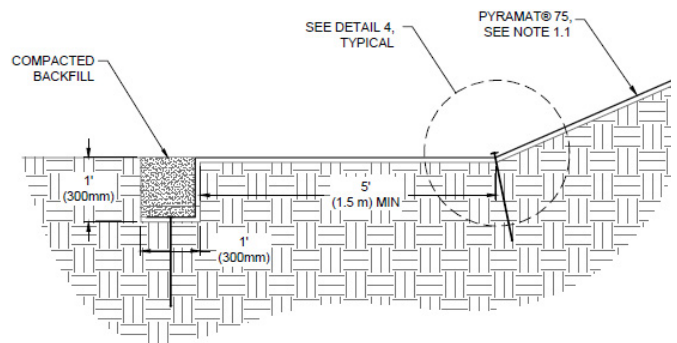

Figure 2: Toe of Slope (TOS) trench
- Excavate a Toe of Slope (TOS) trench 12 in x 12 in (300 mm x 300 mm) at a minimum distance of 5 ft (1.5 m) from the toe of the slope (Figure 2).